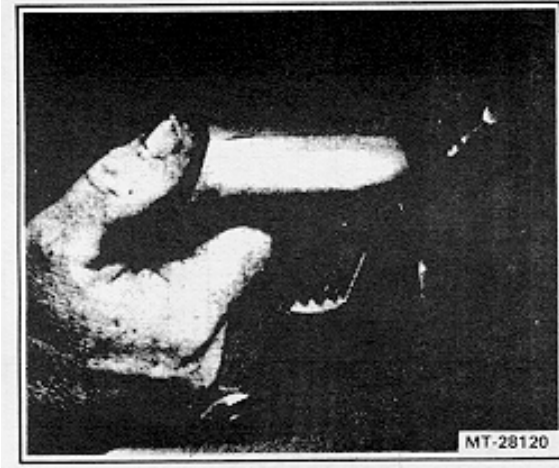
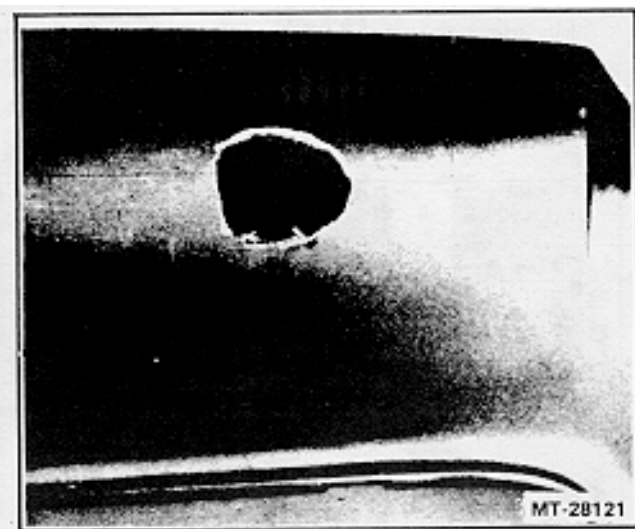

Figure 21 - Opening Cracked Area
Figure 22 - Small Fracture - Damaged Material Removed
1. Using a tapered bit or a saber saw, remove the cracked and flaked fiber glass surrounding the damaged area. For cracks, remove enough material so that there is an open gap at least 1/8 inch wide (Figure 21). For small and large fractures, cut away as much material as is required to provide a solid edge (Figures 22 and 23).